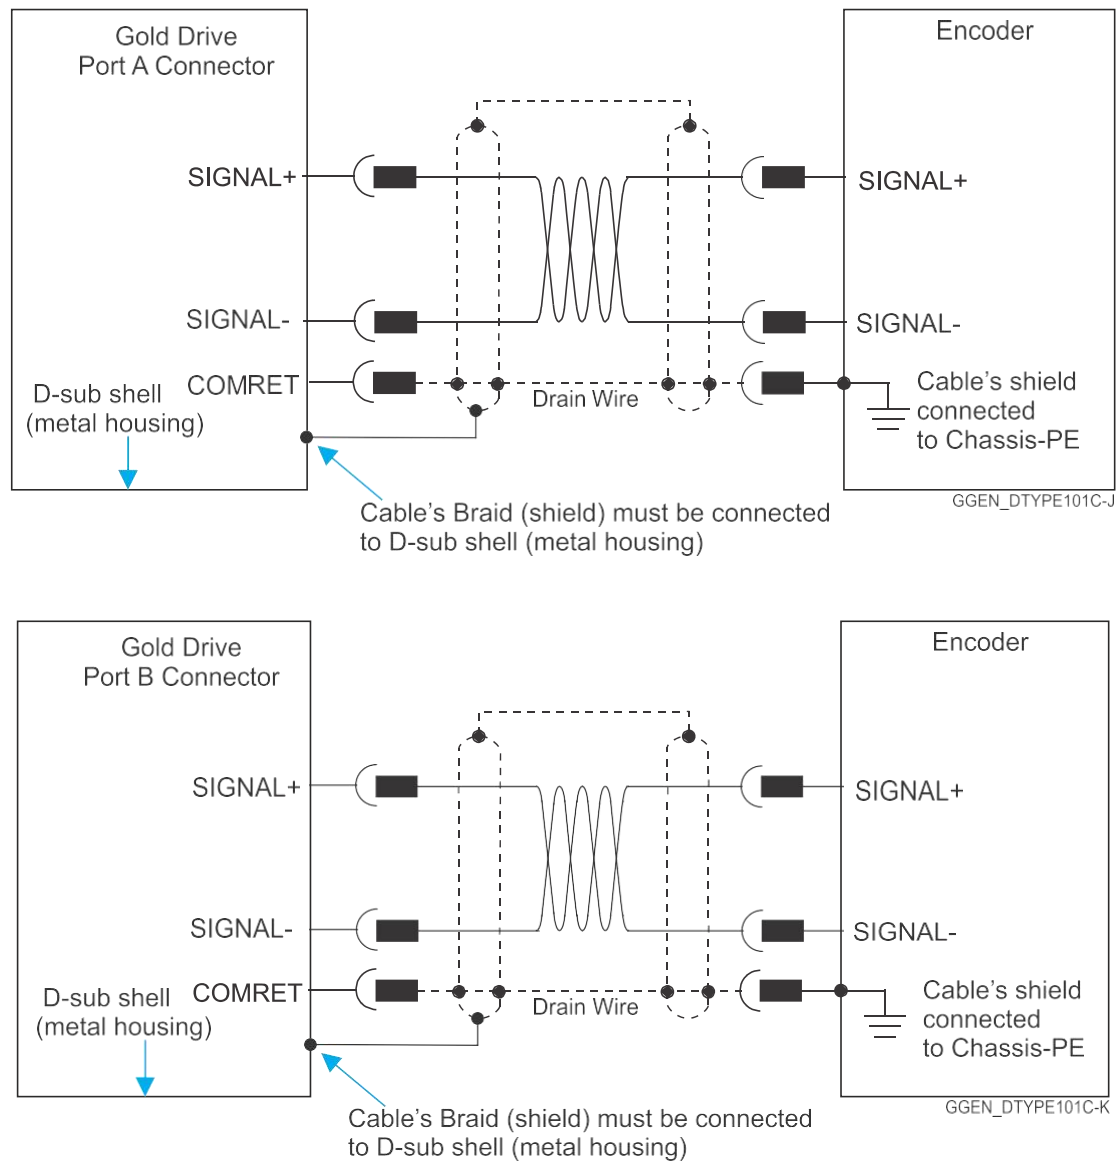

Figure 4: Feedback Port A and B Cable Assemblies
8. Use only a D-Sub connector with a metal housing (Figure 4).
9. Make sure the braid shield is in tight contact with the metal housing of the D-type connector (Figure 4).